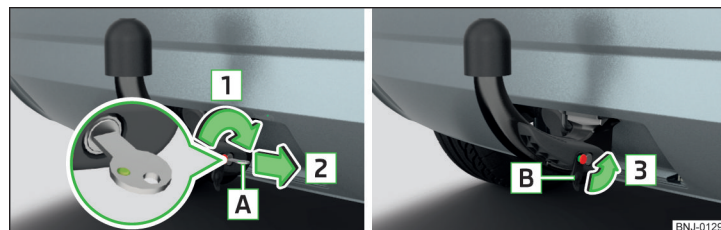

Fig. 156 Secure the lock and remove key / place cap on lock
- Turn the key **A** in the direction of arrow **1** so that the green marking points upwards » Fig. 156.